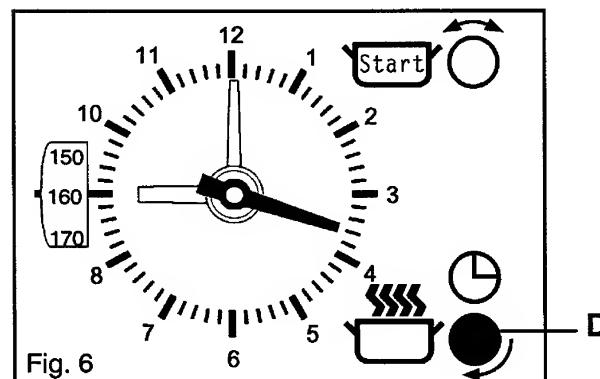

Fig. 6
- iv) To set the length of time you want the food to cook; turn setting knob (D) clockwise, **without pulling it out**, until the required cooking period can be seen in the display window e.g. 160 minutes (2 hours 40 mins) as Fig. 6.